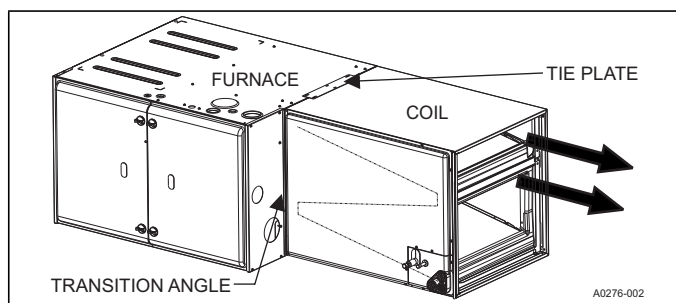

FIGURE 8: CM Horizontal Right Application with Furnace
1. Position the coil cabinet against the furnace or modular air handler opening as shown in Figure 8, 9, 11, or 12.